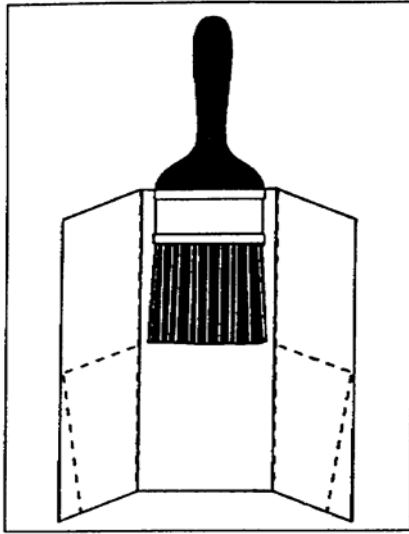

Figure 3-33. Wrapping a paintbrush for long storage
(1) Long periods. When paintbrushes are not to be used for a length of time, clean the bristles with a wire comb then reshape the bristles. When the bristles are straight and parallel, wrap the cleaned paintbrush (Figure 3-33) in its original wrapper or butcher paper. Wrapping keeps the bristles from losing their shape as the paintbrush dries. Store paintbrushes flat, with no weight on the bristles.